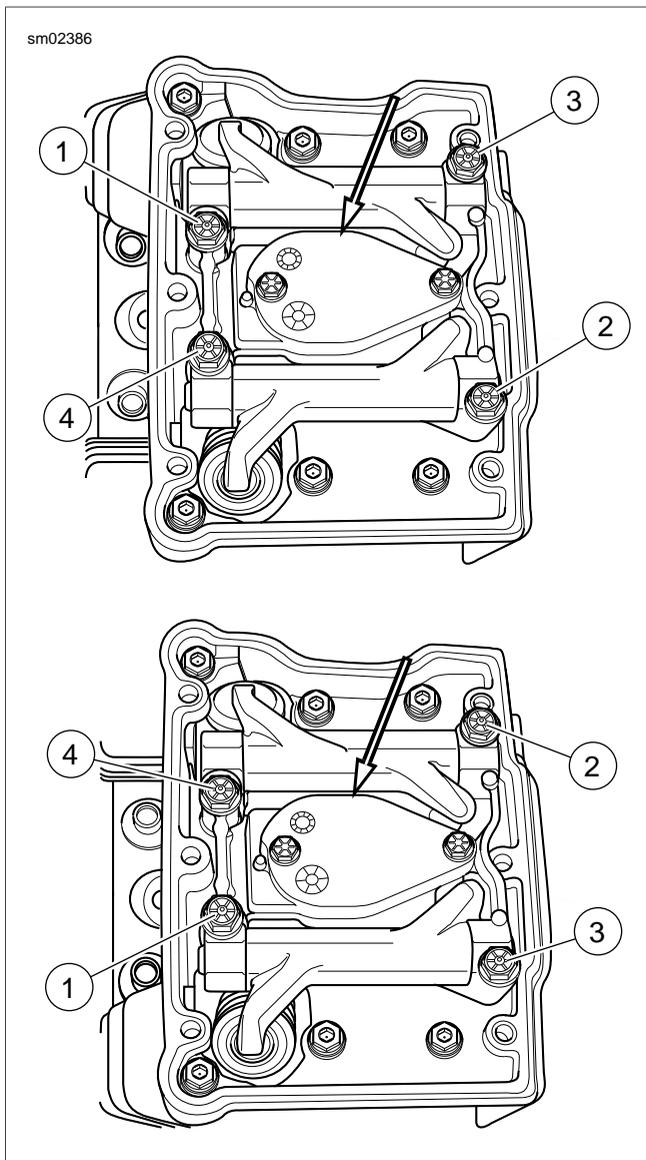

Figure 3-16. 1/4 Turn Rocker Arm Bolts in Sequence
5. See Figure 3-16. Remove two bolts to release breather assembly (arrow) and filter element from the rocker arm support plate. For inspection and repair information, see 3.19 BREATHER ASSEMBLY.